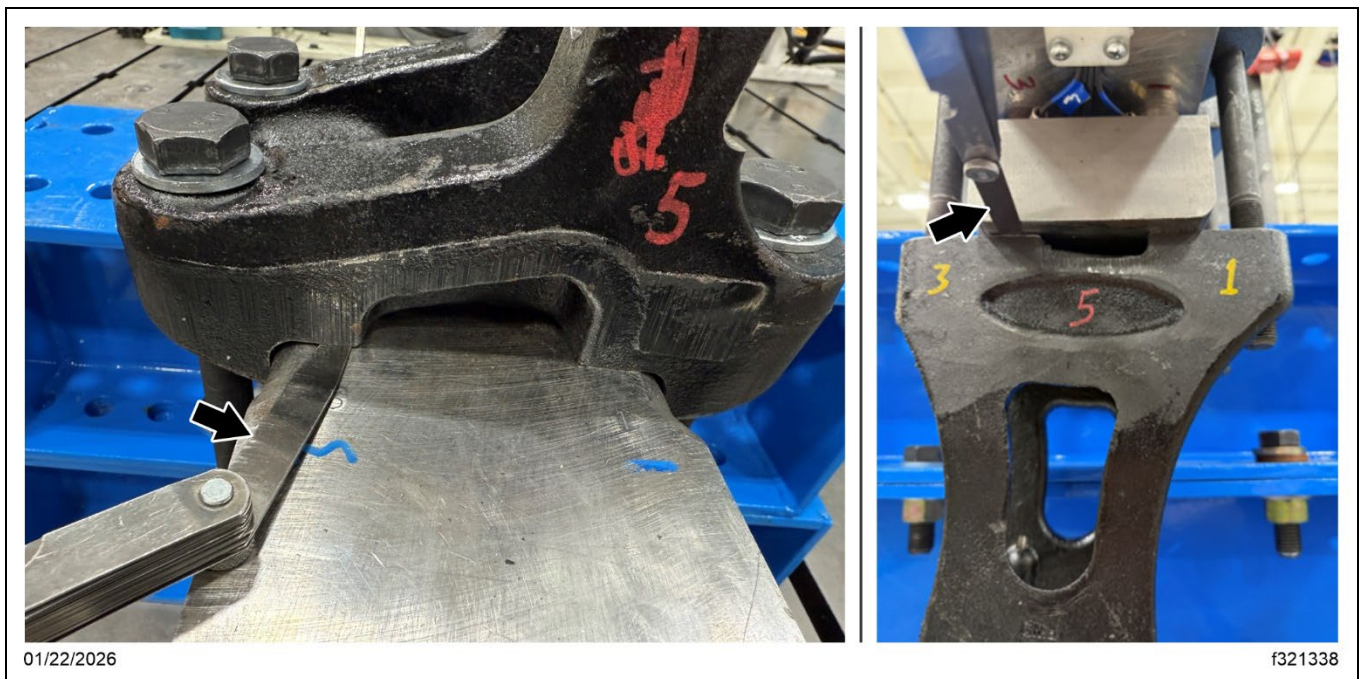

Fig. 3, Measuring the Gap Using a Feeler Gauge
- Inspect each corner of the clamp group with a 0.0015-inch feeler gauge, as shown in **Fig. 3**. There should be no gap between the suspension clamp group casting and the axle housing.